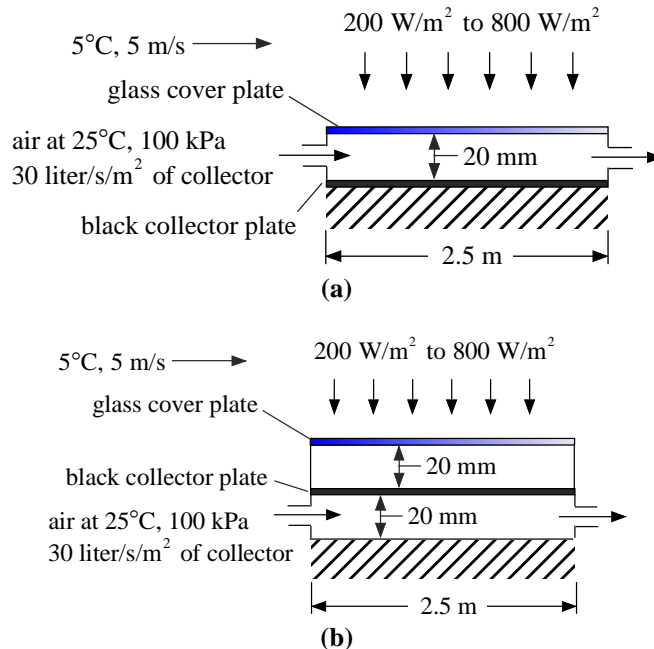

Figure P6.2-8: Air heating solar collector with (a) air flowing above the collector plate and (b) air flowing below the collector plate.
6.2-8 (6-7 in text) You are involved in a project to design a solar collector for heating air. Two competing designs are shown in Figure P6.2-8.
Both designs employ a transparent glass cover plate and a thin metal opaque black collector plate upon which solar radiation is completely absorbed. The glazing is standard safety glass with a thickness of 6 mm. In the first design, shown in Figure P6.2-8(a), air is blown through the gap between the cover and plate. In the second design, shown in Figure P6.2-8(b), the air flows in a second gap that is below the collector plate and free convection occurs between the collector plate and the glass cover plate. The collector is 1 meter wide (into the page) and 2.5 m long (in the air flow direction) and oriented horizontally. In both designs, the gaps are 20 mm wide. Air at 25°C, 100 kPa enters the flow passage at a flow rate of 30 liters/sec per square meter of collector area (area exposed to solar radiation) in both cases. The outdoor temperature (above the glass cover plate) is 5°C and there is a wind that may be represented as a forced convective flow with a free stream velocity of 5 m/s in the flow direction. Calculate and plot the efficiency of the two collector designs as a function of the solar radiation absorbed on the plate for values between 200 and 800 W/m². Assume that the insulation is adiabatic and neglect radiation in these calculations.